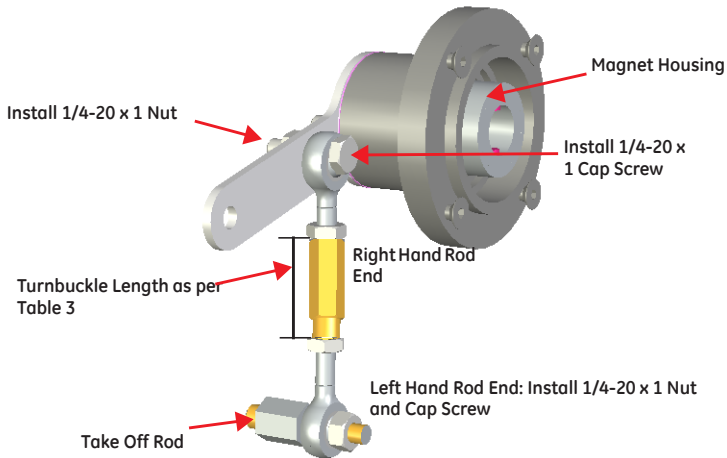

Figure 14 SVi1000 Take Off Rod Mounting
4. Thread the take-off rod to the actuator stem connector (Figure 14).
5. Attach the right hand threaded rod end to the lever using a 1/4 - 20 x 1" cap screw and nut (Figure 14).
10. Thread the turnbuckle onto the left hand threaded rod end (Figure 14).
11. Adjust the turnbuckle until the hole in the lever is aligned with the alignment hole in the bracket. Tighten both turnbuckle lock nuts (Figure 14).